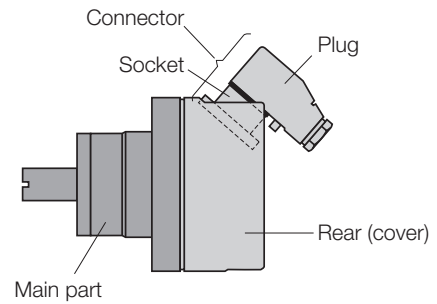
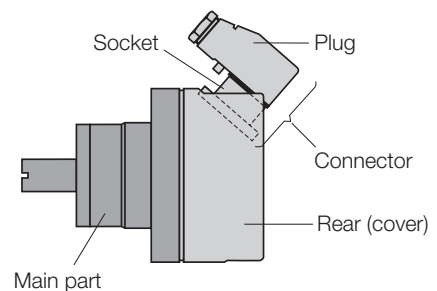

Fig. 7. Cable routed to rear.
Fig. 8. Cable routed to front.
The **plug-in connector** consists of a socket mounted on the transmitter and plug on the end of the connecting cable (screw gland) with 7 screw terminals (wire gauges up to 1 mm²). The socket can be mounted so that the cable is routed to either the rear (see Fig. 7) or the front (see Fig. 8).
1) Plastic / connector less cable plug, socket mounted for cable routed to the rear (see Fig. 7, but less plug)
2) Plastic / connector less cable plug, socket mounted for cable routed to the front (see Fig. 8, but less plug)
3) Plastic / connector with cable plug, cable routed to the rear (see Fig. 7)
4) Plastic / connector with cable plug, cable routed to the front (see Fig. 8)